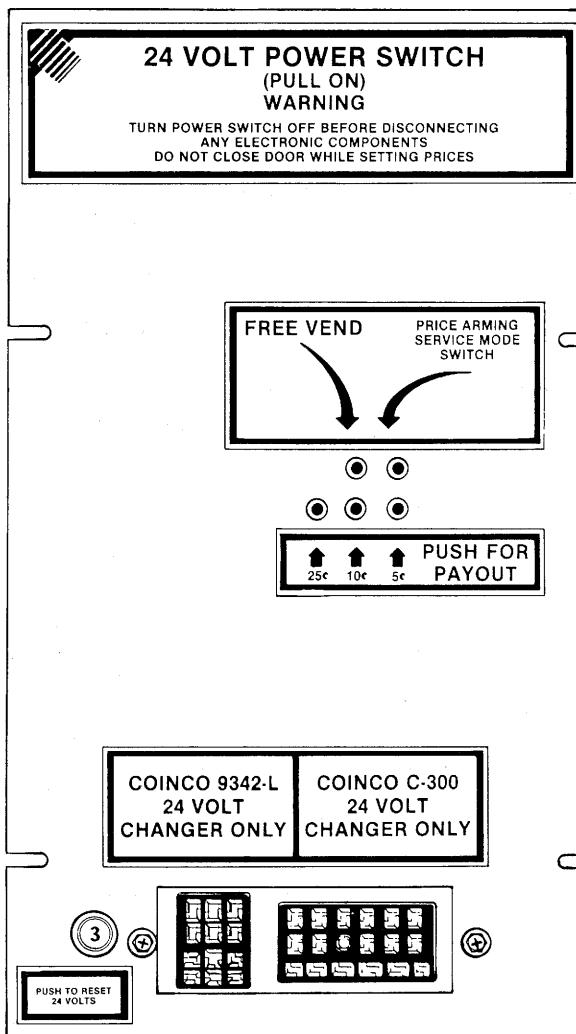

Figure 9
- A. Enter the Service Mode by pulling the Power Switch to it's "ON" position as described on Page 6 and then depress the Price Arming/Service Switch (See Figure 9, Page 4). The display will show only a decimal point.
- A. Enter the Service Mode by pulling the Power Switch to it's on "ON" position as described on Page 6 and then depress the Price Arming Switch (See Figure 9, Page 4).
- B. Depress "FREE VEND" Switch (See Figure 9, Page 4), three (3) flashing bars will appear in the display.
Before any Service function is executed, the Controller must be placed in the Service Mode. This is accomplished by first placing the Power Switch, located above the Control Panel (See Figure 9), to the "ON" position. Next, depress the "PRICE ARMING/SERVICE SWITCH" located on the Control Panel. The Controller will remain in the Service Mode if any selection button or key is depressed at least once every 25 seconds. If more than 25 seconds elapses without a key or button being depressed, the Controller will return to the Vend Mode.